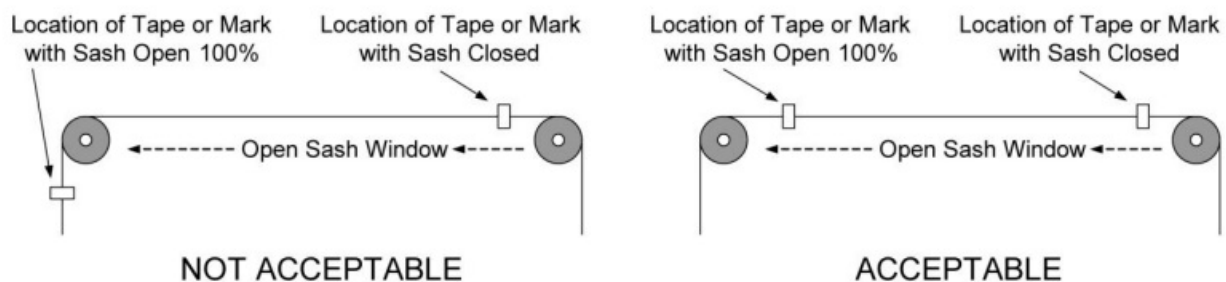

Figure 4: Verify Tape or Mark Travel on Sash Counter-Weight Cable
4. Open the sash 100%, and verify that the tape or mark travels along a straight line without passing through a pulley or other obstruction (Figure 4). If the fume hood has a sash window stopper, make sure to release the stopper so the sash can be opened 100%. If the travel on this run of sash counter-weight cable is acceptable, the Cable Clamp will be secured to this taped or marked location.